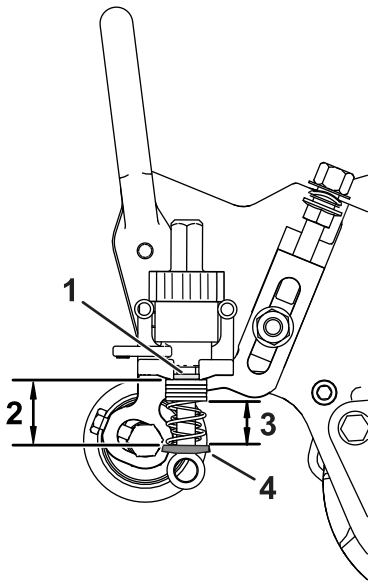

Figure 16
4. Measure the distance between the washers (the current spring length) as shown in Figure 16.